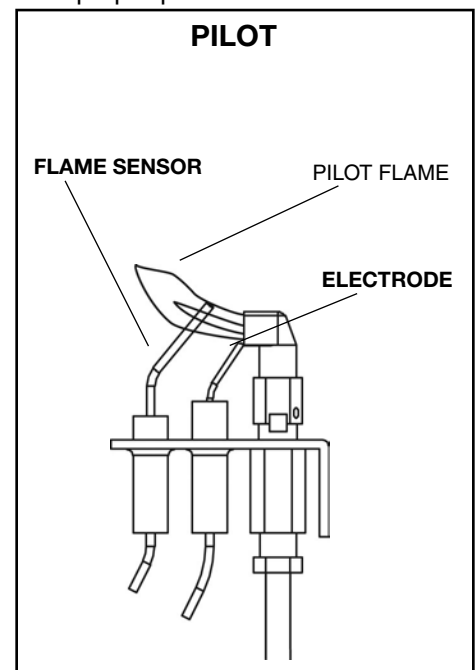

Figure 32: Pilot light.
- b) Check the pilot system for proper flame size and operation. Clean pilot free of soot, dust or any other deposits (Figure 32).